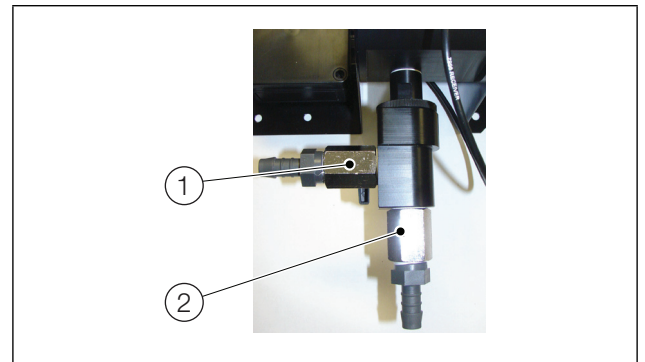

Fig. 4.1 Replacing ball valve assembly
2. Referring to Fig. 4.1:
- a. Using a 25 mm spanner, remove the defective ball valve assembly ① or ② as required.